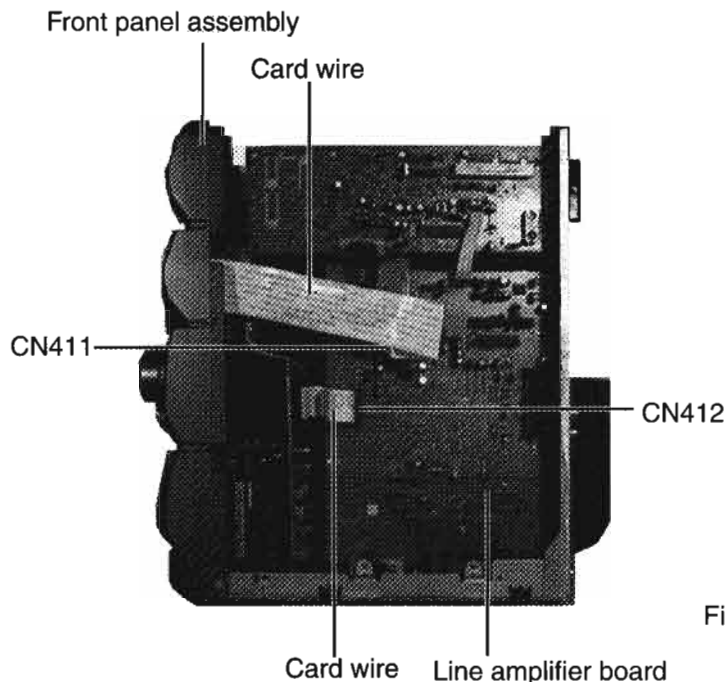

Fig. 7
4. Disconnect the card wires connected to the front panel assembly from connectors CN411 and CN412 on the line amplifier board.(See Fig. 7)